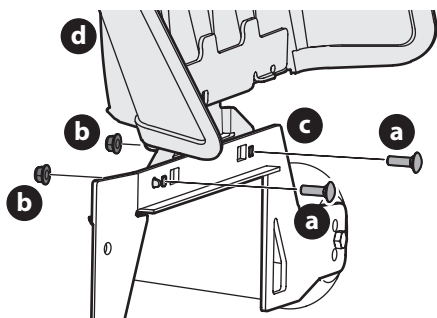

Figure 1
1. Remove the carriage screws (a) and flange lock nuts (b) installed on the mounting bracket (c) on the deck (Figure 1).
2. With the previously removed hardware (a and b), install the discharge chute deflector (d) on the deck (Figure 1).